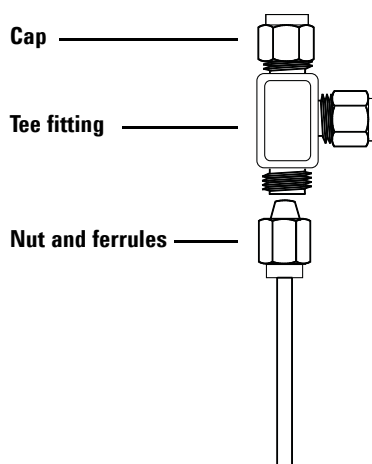

Figure 15 Swagelok tee
- 1 Cut the tubing where you want to install the Tee. Connect the tubing and Tee with a Swagelok fitting. See Figure 15.